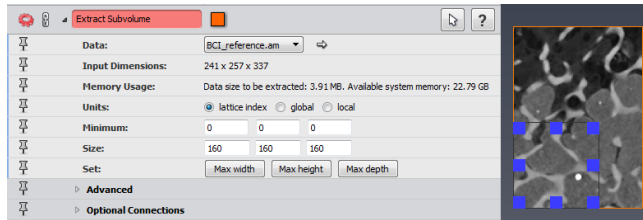

Figure 23.2: Extract Subvolume Module Properties
- Extract a region of interest in the bone-cement using an *Extract Subvolume* as shown in Figure 23.2